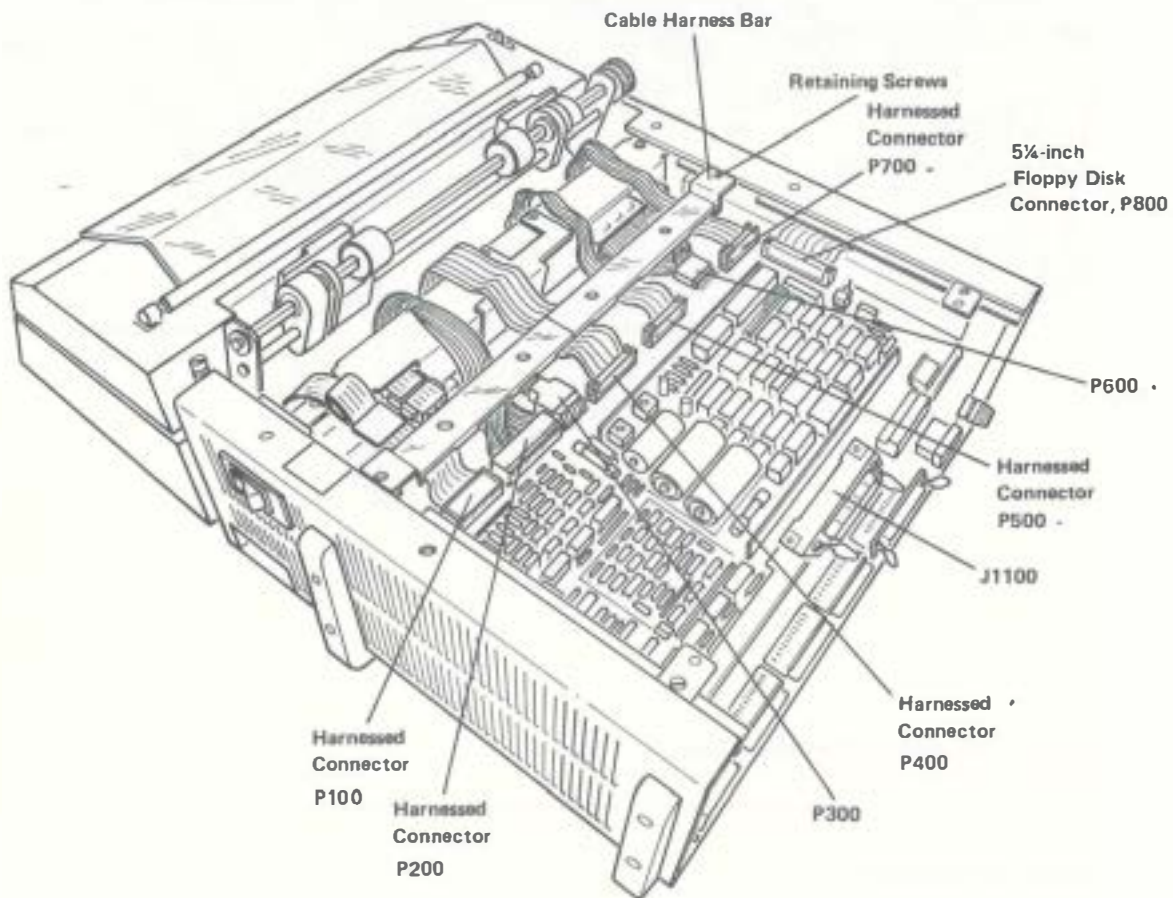

Figure 5-6. Processor Unit (Top View)
2. Disconnect all the harnessed connectors and the 5¼" diskette connector from the printer/plotter control board. See Figure 5-6.
2. Reconnect all the harnessed connectors and the 5 $\frac{1}{4}$ " diskette connector to the printer/plotter control board. See Figure 5-6.
2. Disconnect all the harnessed connectors from the printer/plotter control board. See Figure 5-6.
3. Remove the two cable harness retaining screws and place the cable harness out of the way toward the front of the processor unit and over the tractor bar. See Figure 5-6.
4. Position the cable harness clamp assembly over its mounting holes and secure it with the two screws. See Figure 5-6.